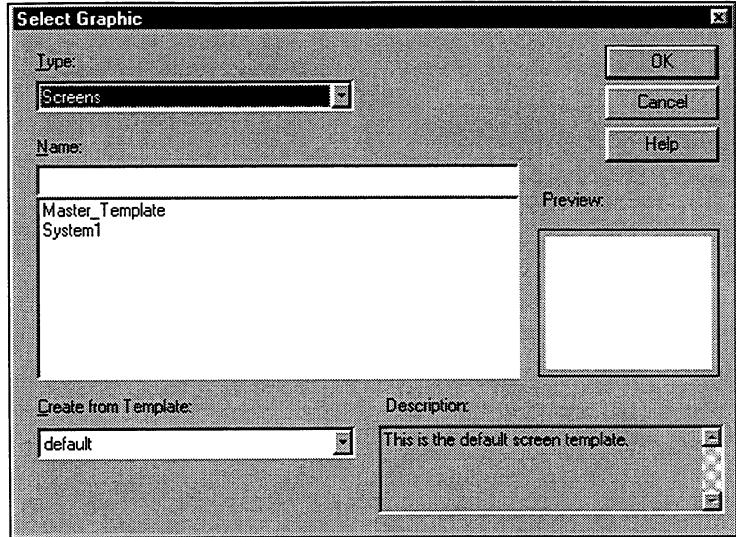

Figure 8-13. Select Graphic Dialog Box
1. Select the Graphic Editor command on the Tools menu or the Graphic Editor button on the Application Toolbar. The Select Graphic dialog box opens, as shown in Figure 8-13.